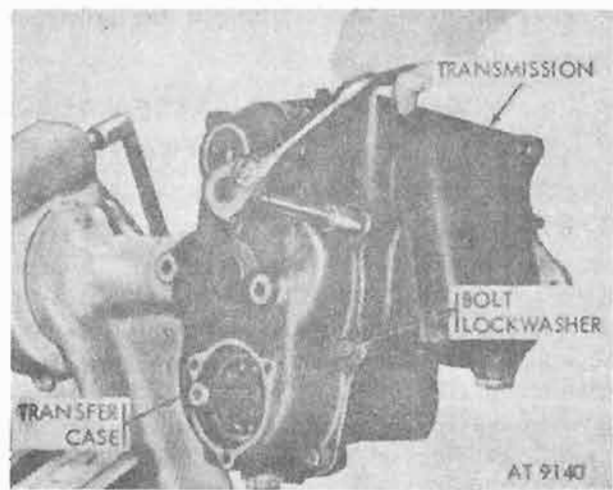

Figure 8-7. Transfer case and gasket.
g. Remove eight transfer case retaining bolts and lockwashers (fig. 8-7) and then remove transfer case and gasket from transmission case.